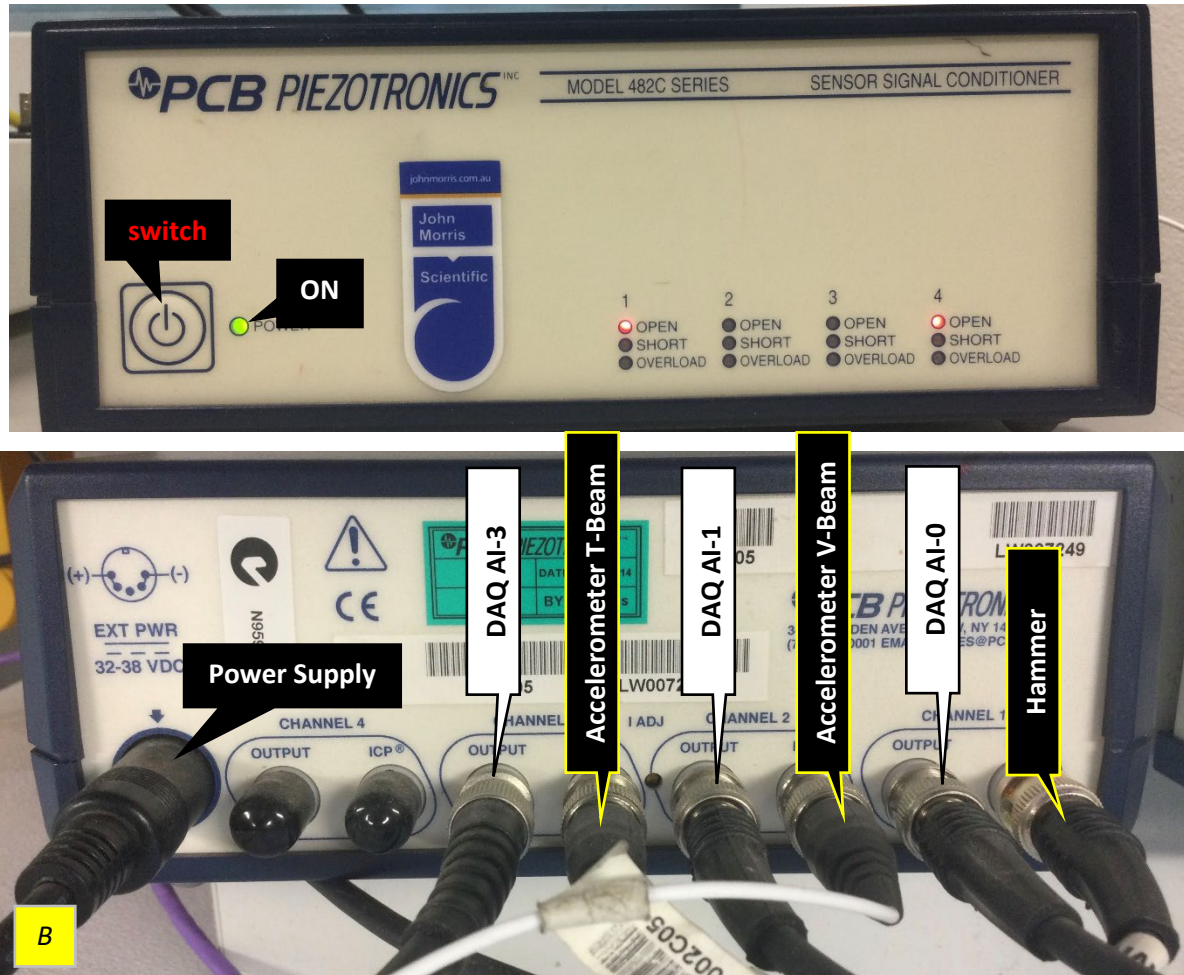

Fig. 1. Sensor Signal Conditioners (4-channels) (A) Front and (B) Rear faces
1. Make sure the PC and all instruments (a *signal conditioner*, a *DAQ* & a *Power Amplifier* units) are connected to each other and to power sources, as shown in Figures 1 to 3.
4. Turn all instruments ON (refer to 'switch' in Figures 1, 2 and 3) and make sure the respected pilot light turns Green.